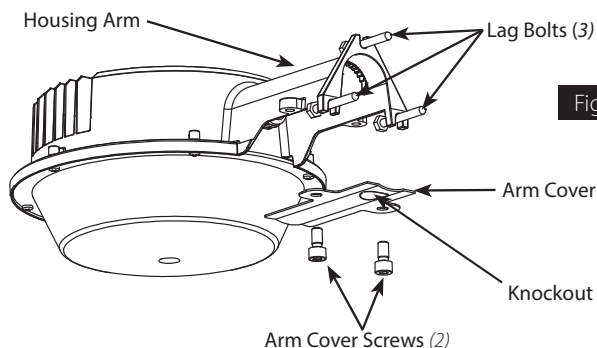

Fig: 1
1. Secure the fixture to a sturdy wall. Using the **Housing Arm** as a guide, mark the 3 mounting holes. Drill 3/16" pilot holes and use (3) provided **Lag Bolts** to mount to wooden surface or use appropriate mounting hardware (*not supplied*) suitable for the mounting surface.
2. Install the 2 bottom **Lag Bolts** first. Screw in the **Lag Bolts** so that there is about 3/8" of space under the head (*Fig. 1*).
4. Loosen **Arm Cover Screws** (2) and remove the **Arm Cover**.